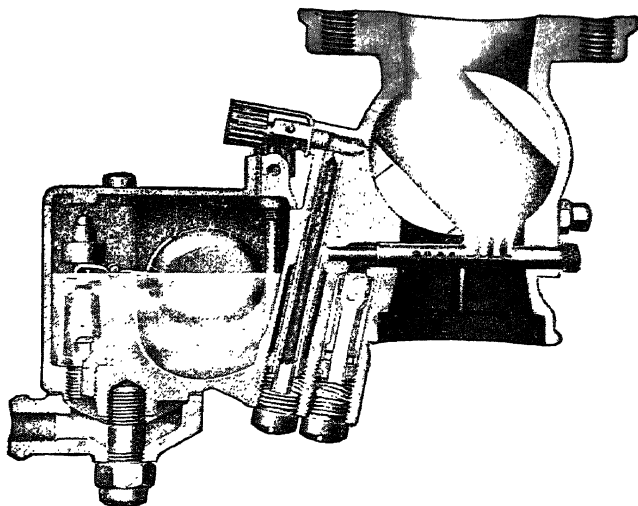

Fig. 102. Cross Sectioned View of Winfield Carburetor at One-Half Open Throttle
**Idling to Half-Open Throttle.** As the throttle opens wider and off the idling position, Fig. 102, it starts to uncover the spray-tube openings. The fuel is supplied from the intermediate well and the level of gas in this well drops. As the throttle reaches about one-third to half opening, the gas which has been held in the idling by-pass tube drops and furnishes an extra supply of gas to the intermediate well. This action affords a second stage of acceleration in the intermediate range.